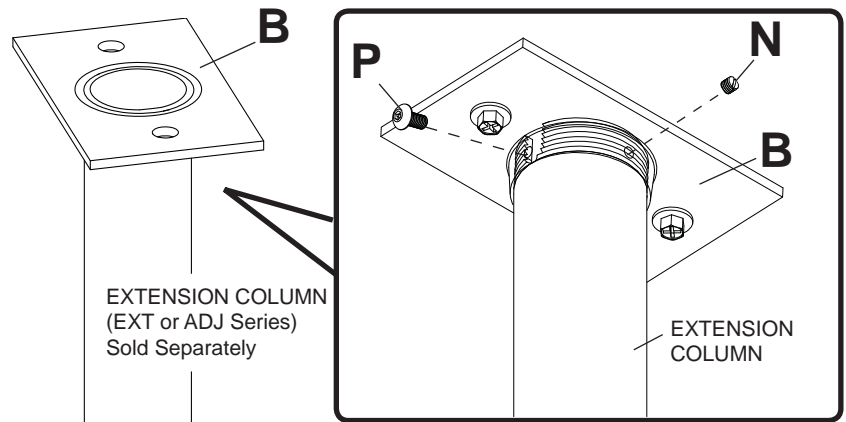

fig. 3.5
**3** Screw extension column (**EXT or ADJ Series**) to ceiling plate (**B**). Align the notch with one of the four holes in the ceiling plate and secure extension column with a M5 x 10 mm socket pin screw (**P**) using security allen wrench (**G**). See figure 3.5.